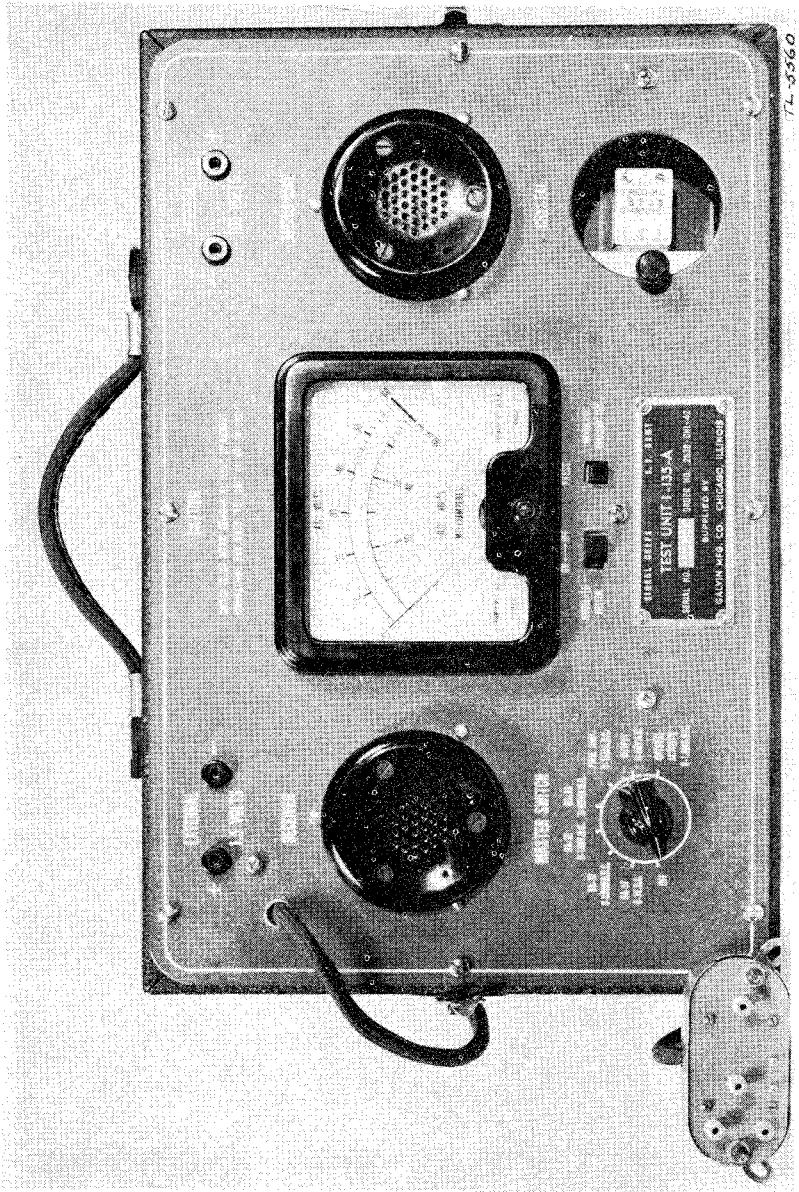

FIGURE 6.—Test unit I-135-(*).
53. Test unit I-135-(*).—This unit is a multirange voltmeter and milliammeter, a crystal tester, and an r-f and a-f signal source (fig. 6). Test unit I-135-(*), is used for the measurement of battery voltage and current, r-f amplifier plate current, audio output voltage, and crystal activity. It is used as a modulated r-f signal source for the alinement of the receiver and as an a-f signal source for determining the modulation capability of the transmitter. It combines in one case all the meters and additional apparatus required for test equipment IE-15-A.
d. Make certain that the MASTER SWITCH of test unit I-135-(*) is in the OFF position. Place the transmitter crystal holder of the desired frequency in the crystal socket in the front panel compartment of test unit I-135-(*). (See fig. 6.) Be sure the crystal is of the same frequency as the coils in the radio set and that its frequency is 455 kc less than the receiver crystal. Connect external 1.5-volt and 90-volt heavy duty batteries (of the type described in paragraph 53d) to the battery terminals marked EXTERNAL 1.5 VOLTS and EXTERNAL 105 VOLTS on the front of I-135-(*).